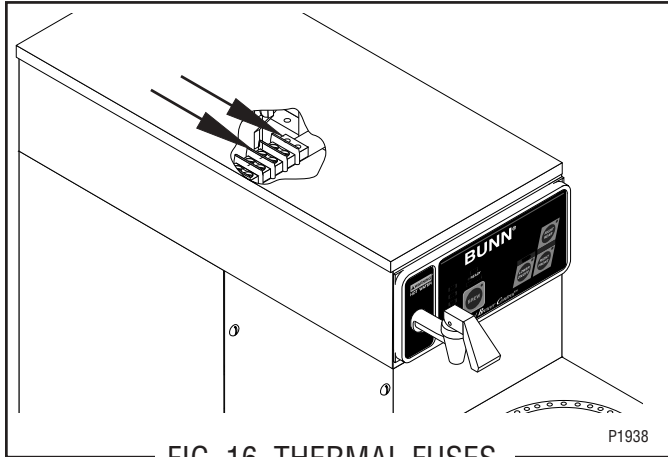

FIG. 16 THERMAL FUSES
4. Refer to Fig. 16 when reconnecting the thermal fuse wiring harness.